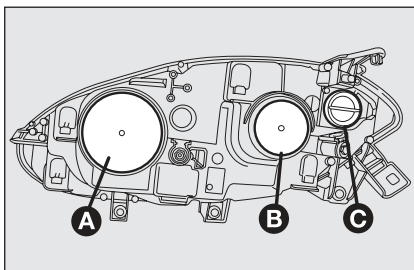
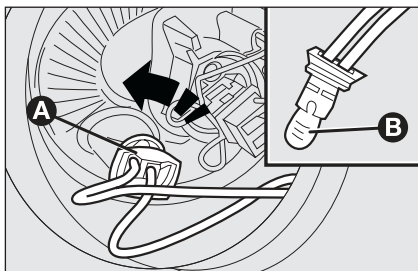

fig. 22
fig. 24
FRONT LIGHT UNITS fig. 22
- remove the protective cover **B**-fig. 22;
- refit the protective cover **A**-fig. 22 correctly.
- remove the protective cover **A**-fig. 22;
- turn the bulb holder **A**-fig. 24 counterclockwise and then withdraw it;
- fit the new bulb, refit the bulb holder **A**-fig. 24 and then refit the protective cover **B**-fig. 22 correctly.
- refit the protective cover **B**-fig. 22 correctly.
- turn the protective cover **C**-fig. 22 counterclockwise;